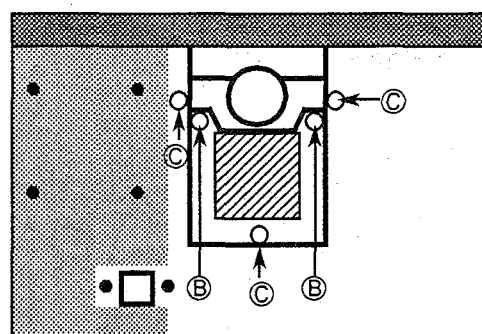

Figure 2
1. Connect an oscilloscope to TP 7(TE) and TP 4(GND).
3. Adjust R604(T.GAIN ADJ.) so that the waveform becomes below figure 2.